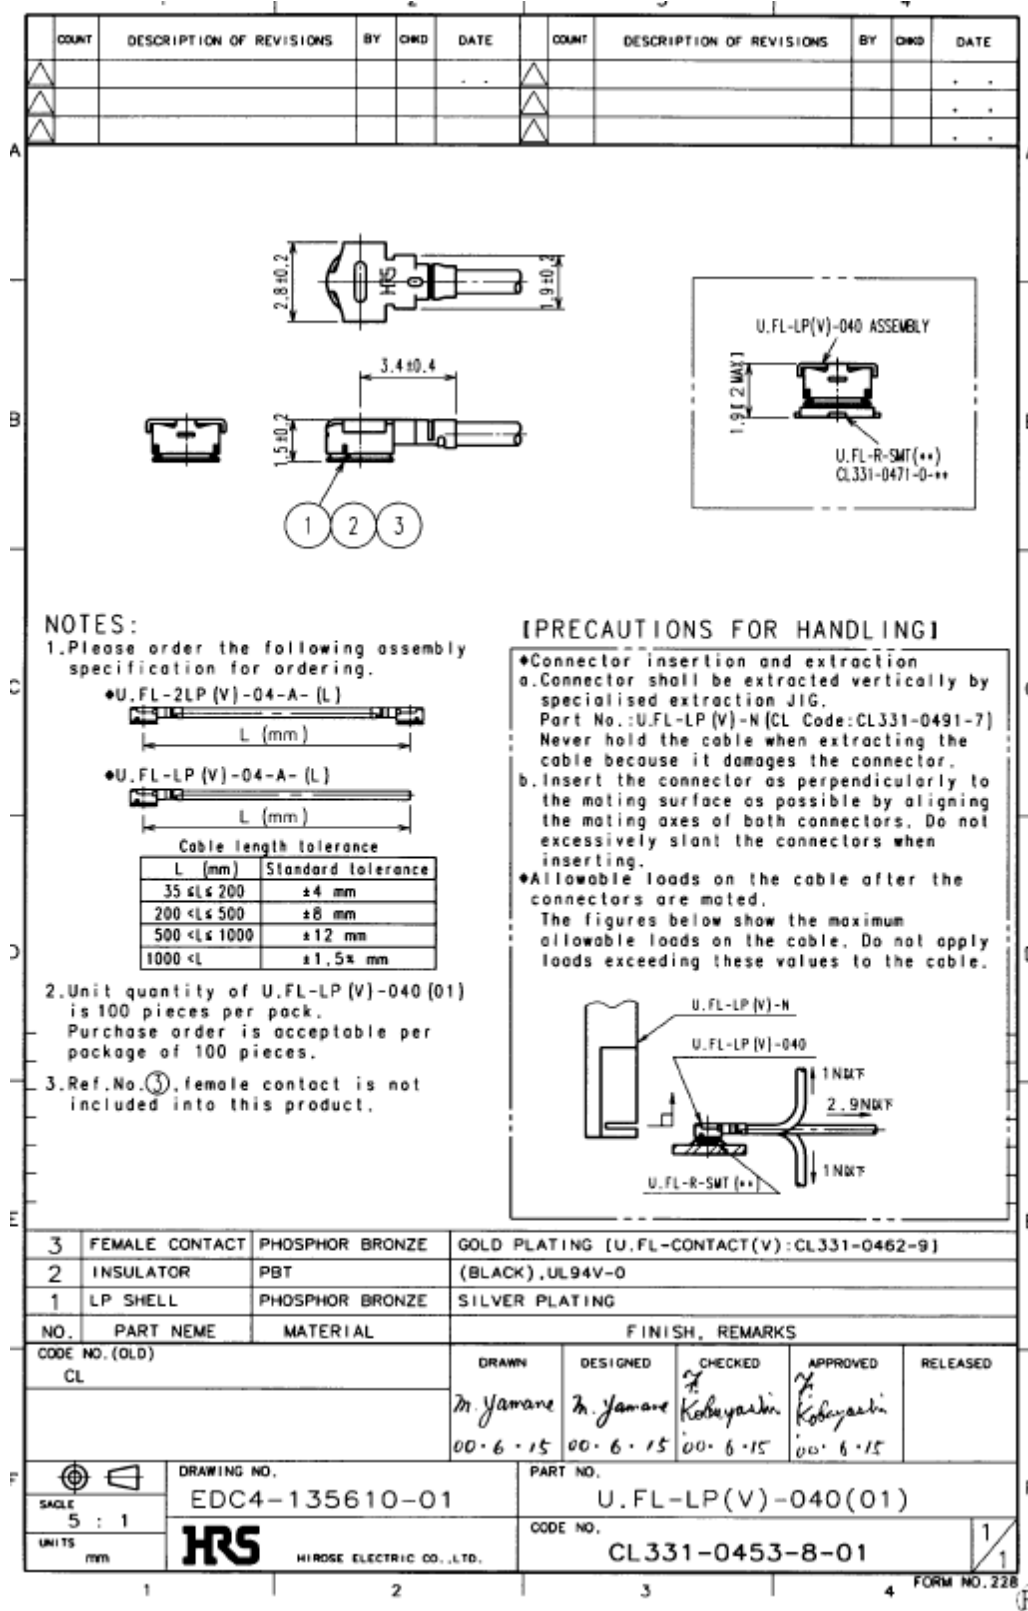

Figure 34: Specifications of U.FL-LP-(V)-040(01) plug
In addition to the connectors illustrated above, the U.FL-LP-(V)-040(01) version is offered as an extremely space saving solution. This plug is intended for use with extra fine cable (up to  $\varnothing 0.81$  mm) and minimizes the mating height to 2 mm. See Figure 34 which shows the Hirose datasheet.